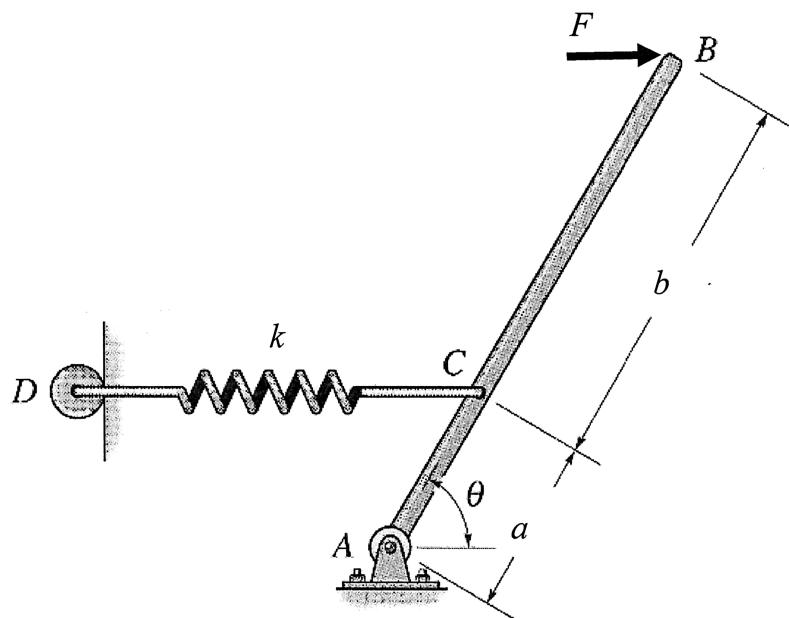

Figure 1
1. This paper contains **FOUR (4)** questions and comprises **SEVEN (7)** pages.
- 1(a) A spring loaded lever mechanism has a horizontal force,  $F$ , applied at B, and is in equilibrium with the spring attached as shown in Figure 1. The rigid bar, ACB, has an angle,  $\theta$ , relative to the horizontal plane at A. The spring CD, is connected to the rigid bar at C from a roller support at D. The linear spring has a stiffness of  $k$ . When the load,  $F$ , is removed, the spring will return the mechanism back to its initial position on the vertical plane where  $\theta = 90^\circ$ .